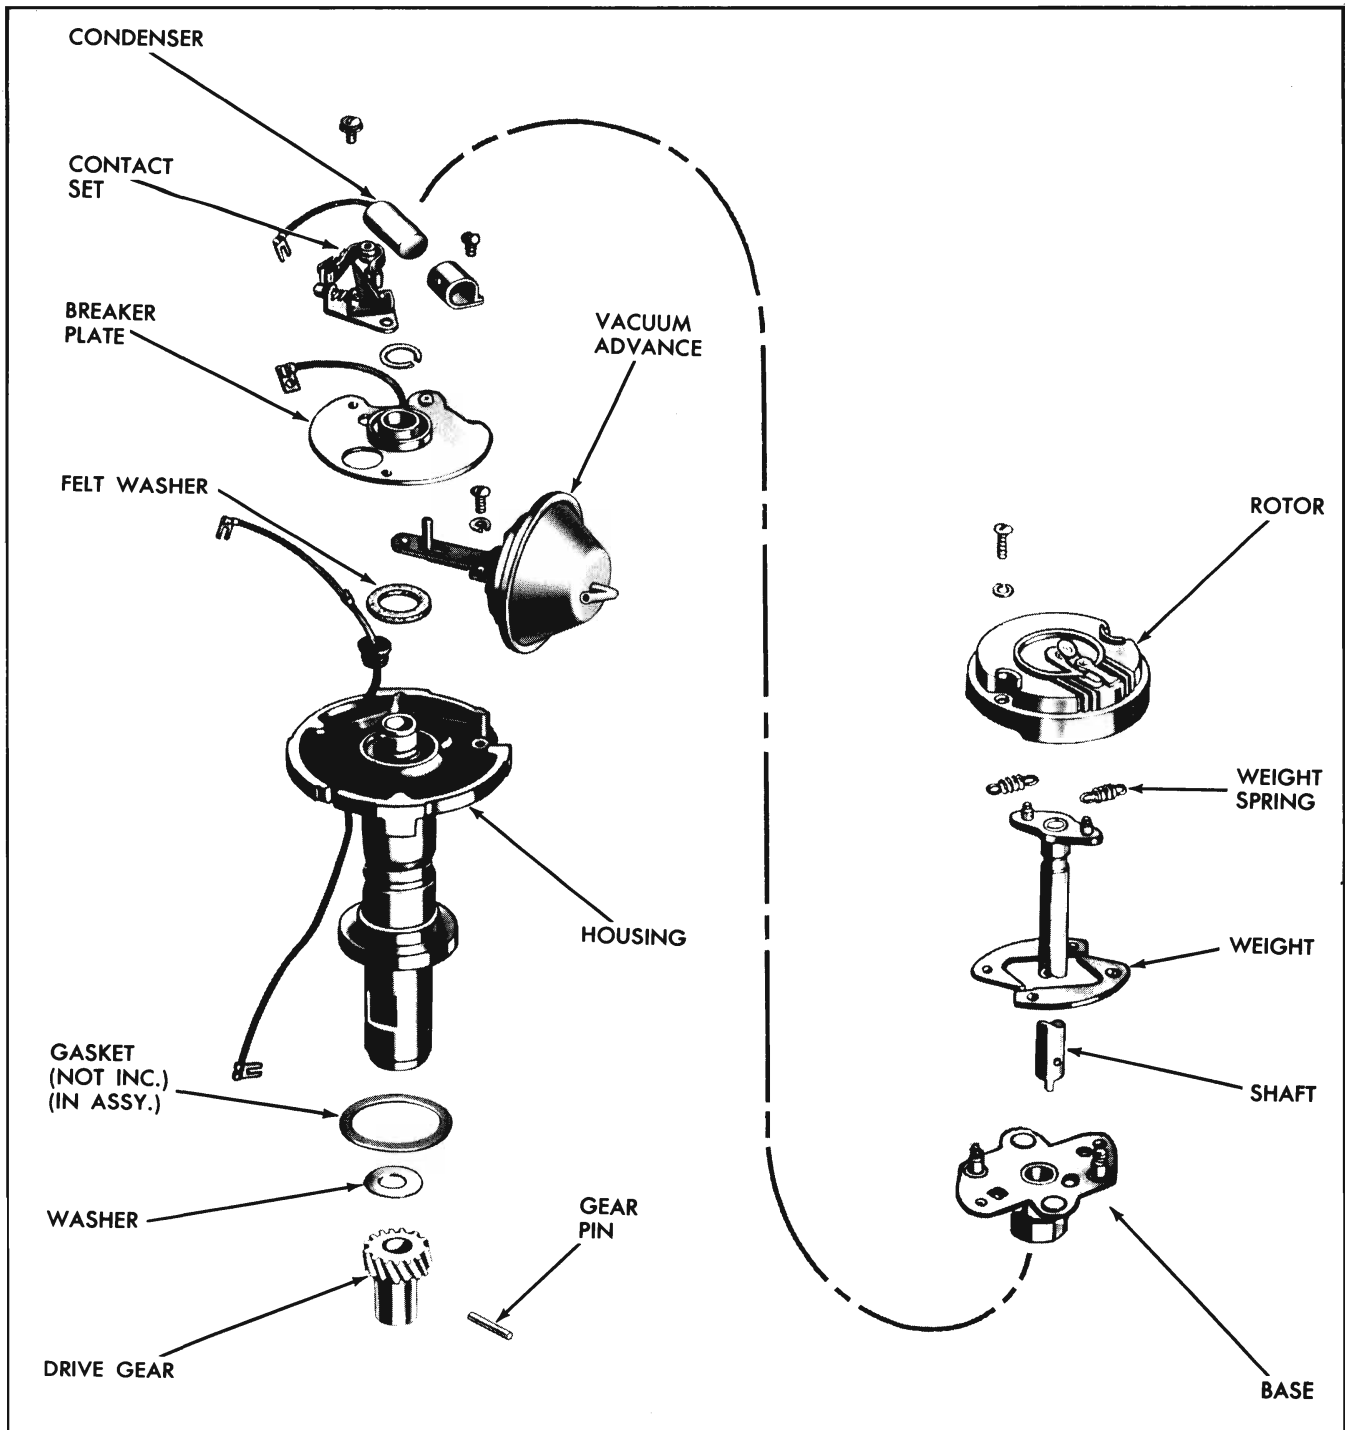

Fig. 11-59 Exploded View of Distributor (4 Cylinder Engine Distributor Shown)
1. Remove the rotor by removing the two attaching screws and lock washers (Fig. 11-59).